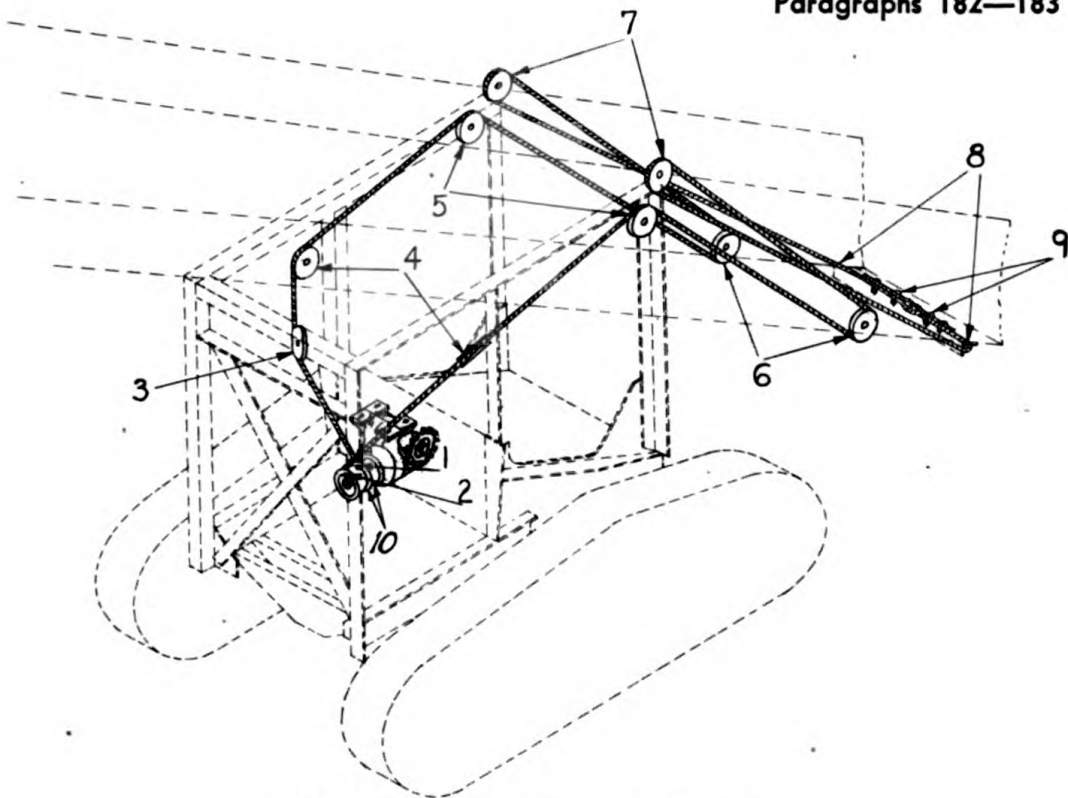

Figure 106. Reaving cable for hoist.
(a) Run one end of the cable through the hole next to the inner flange (1) Figure 106, in the hoist drum, then through the inside of the drum and out hole (2) next to the outer flange. Pull the cable across to sheave (4) on the superstructure frame on the side opposite the drum and run the cable over this sheave.